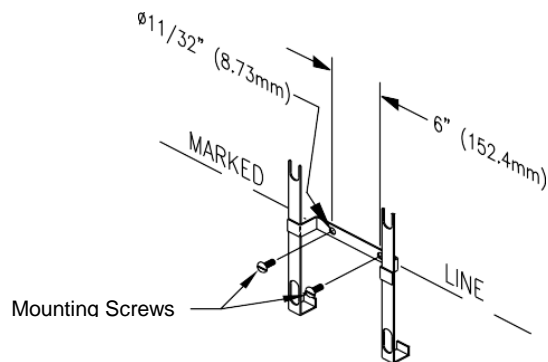

Figure 4 - Mounting Bracket
3. Remove the mounting bracket from the rear of the AutoSwitch Console by removing the nuts at the bottom of the bracket. Place the upper edge of the bracket cross-member on the horizontal line so that it is centered with the vertical line. Holding the bracket with the slotted extensions away from the wall, mark the location of the two mounting bolts (Figure 4)
4. Using appropriate hardware based on wall construction, anchor the mounting bracket to the wall (Figure 4).